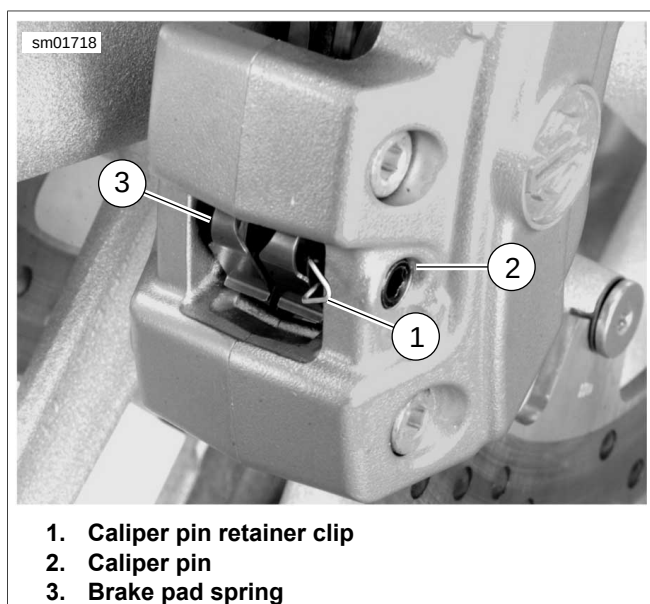

Figure 1-32. Front Brake Caliper (Right Side Shown with screen cover removed)
- See Figure 1-32. Remove screen cover by pulling single prong side first, then caliper pin retainer clip, and caliper pin (6 pt/5 mm). Discard pad pin and pad pin clip.